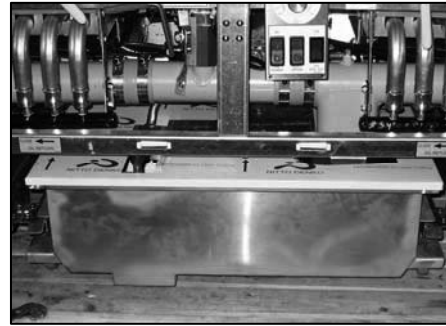

Figure 1. Remove the filter pan by pulling it out from underneath the fryer.
2. Prior to removing the fryers from their pallets, open the doors of the 2424G with the filter remove the filter pan (Fig. 1). Remove the fryers from the pallets by lifting them up and over the pallet supports. Avoid damage to the casters and caster support bases when lifting and placing fryers.